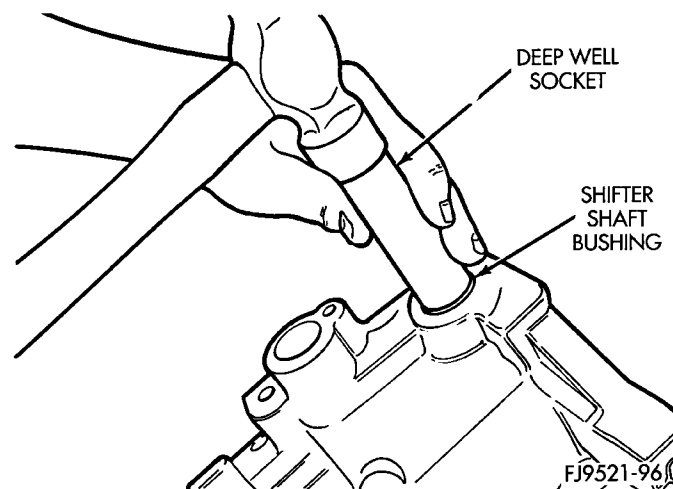

Fig. 136 Selector Shaft Bushing Installation
- (1) Position replacement bushing over selector shaft bore.
- (2) Using an appropriate size deep-well socket, install bushing in selector shaft bore (Fig. 136).